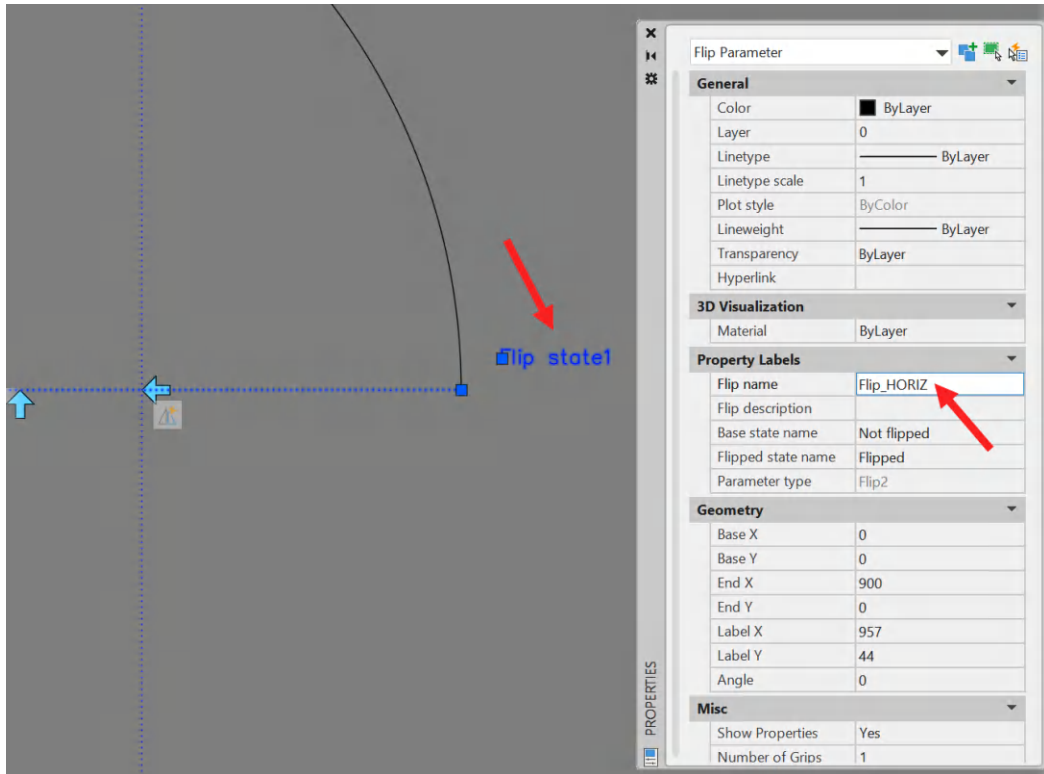

Figure 11.23: Renaming the parameter label in the Properties palette
7. Click on the parameter label and right-click. Select **Properties** on the shortcut menu to bring up the **Properties** palette. Rename the parameter label in the **Properties** palette to `Flip_HORIZ`, as shown in *Figure 11.23*.